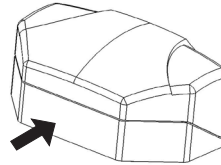
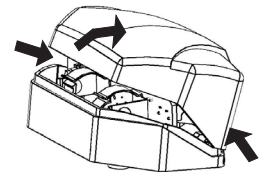

Figure 3
Figure 4
- Remove the Detector cover by pressing on the back wall of the Detector base (Figure 3) and pressing the edges of the cover by the fingers of the other hands at the points shown in Figure 4, put off the cover.